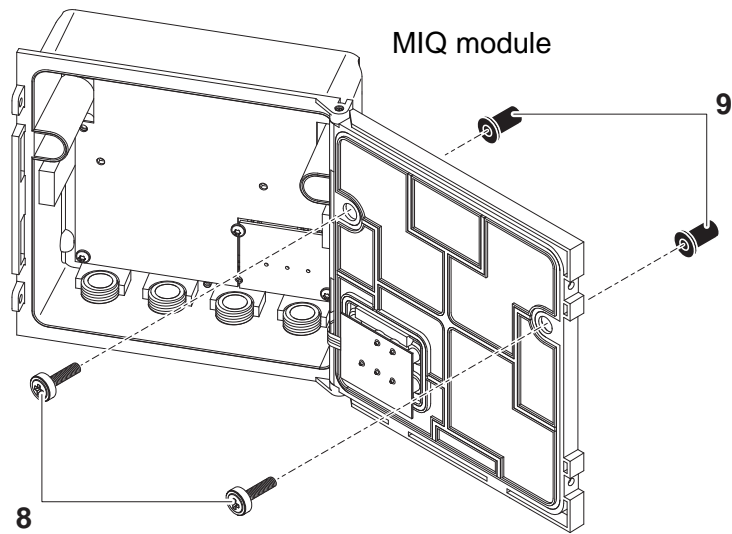

Fig. 3-8 Premounting the ISO blind nuts (variant 2)
- 6 Insert the cheese-head screws (pos. 8 in Fig. 3-8) with the plastic washers in the drilled mounting holes in the module lid and loosely screw in the ISO blind nuts (pos. 9).
| 7 | Attach the prepared MIQ module to the back of the Universal Transmitter. At the same time, ensure that the two clips on the Universal Transmitter click into place in the lid of the MIQ module. Subsequently, tighten the two screws (pos. 8 in Fig. 3-8). |